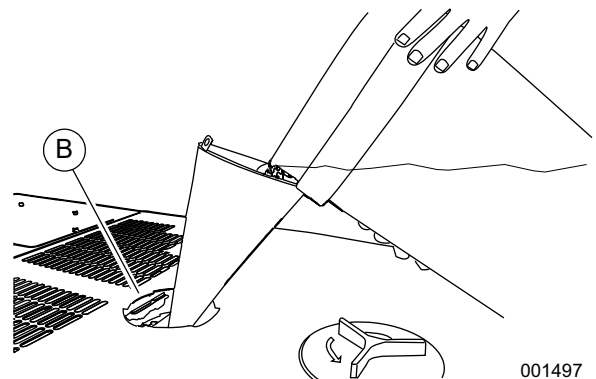

Figure 5-14. Filling Coolant System
14. See Figure 5-14. Insert funnel into filler neck of radiator (B). See Draining and Flushing Coolant System.